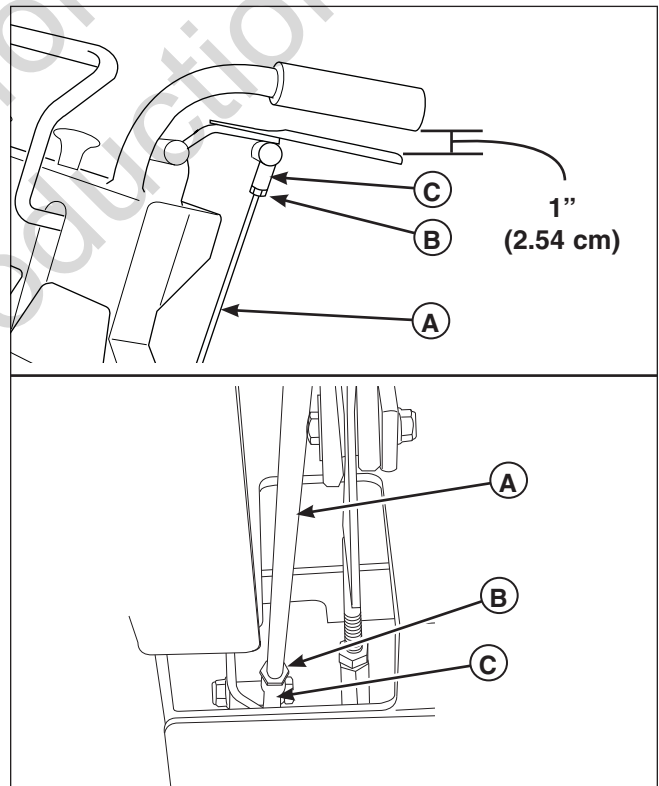

Figure 34. Handle Placement Adjustment
1. Loosen the jam nuts (B, Figure 34) that are located on the top and the bottom of the reversing linkage rod (A).
- To increase the amount of clearance between the handle bars and the reverse speed control levers, turn the linkage rod (A) **clockwise**.